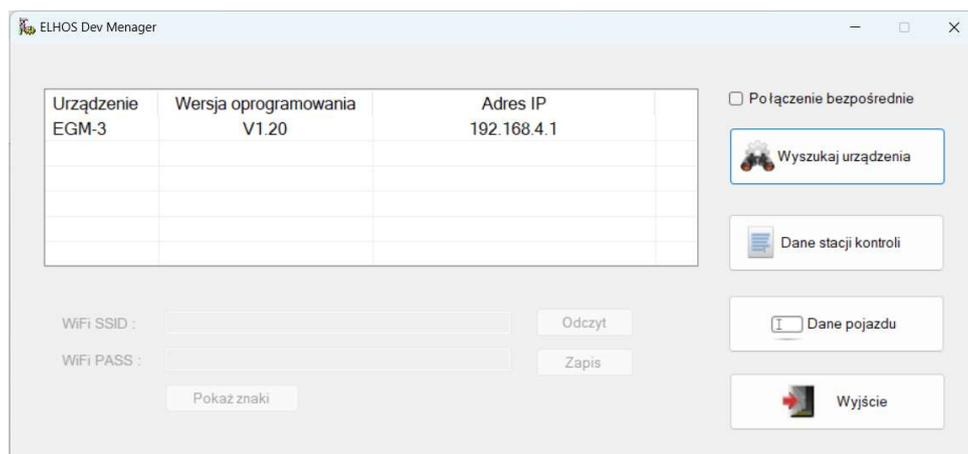

Fig. 3
- The first one consists in direct connection of the computer (laptop) to the WiFi network created by the EGM-3 device. The name of this network is as follows: "ELHOS_EGM3_xxyyzz", where "xxyyzz" are the last digits of the AccessPoint's MAC address created by EGM-3. Thanks to this, each EGM-3 device creates a unique WiFi network (AccessPoint). No password is required as the network is open. The EGM-3 device always has the address 192.168.4.1 in the network it creates. After connecting your computer to this network and launching the software, select the "Direct connection" option. After pressing the "Search for devices" button, the EGM-3 device should be detected and appear on the list of devices as shown in the screen in Fig. 3.